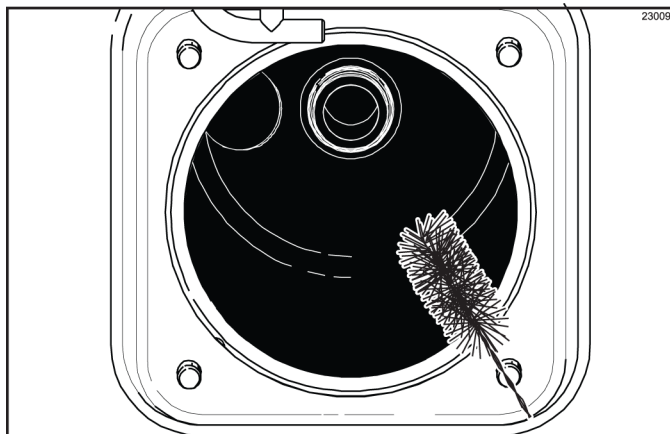

Figure 6-77
4. Return to the freezer with a small amount of cleaning solution. Using the black brush, clean the rear shell bearing at the back of the freezing cylinder. (See Figure 6-77.)